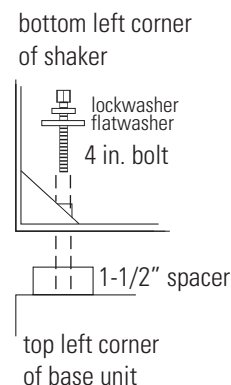

Figure 1-8. Shaker To Shaker
5. Assemble the lockwashers, then the flatwashers, onto the 5/16-18 x 4" bolts. Thread the bolts through the connection point and spacer and into the unit below (Figure 1-8). Tighten bolts.